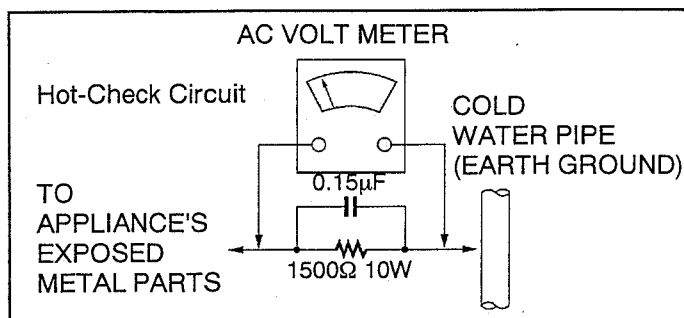

Figure 1
LEAKAGE CURRENT HOT CHECK (See Figure 1)
2. Connect a $1.5\text{k}\Omega$, 10W resistor, in parallel with $0.15\mu\text{F}$ capacitor, between each exposed metallic part on the set and a good earth ground such as a water pipe, as shown in Figure 1.